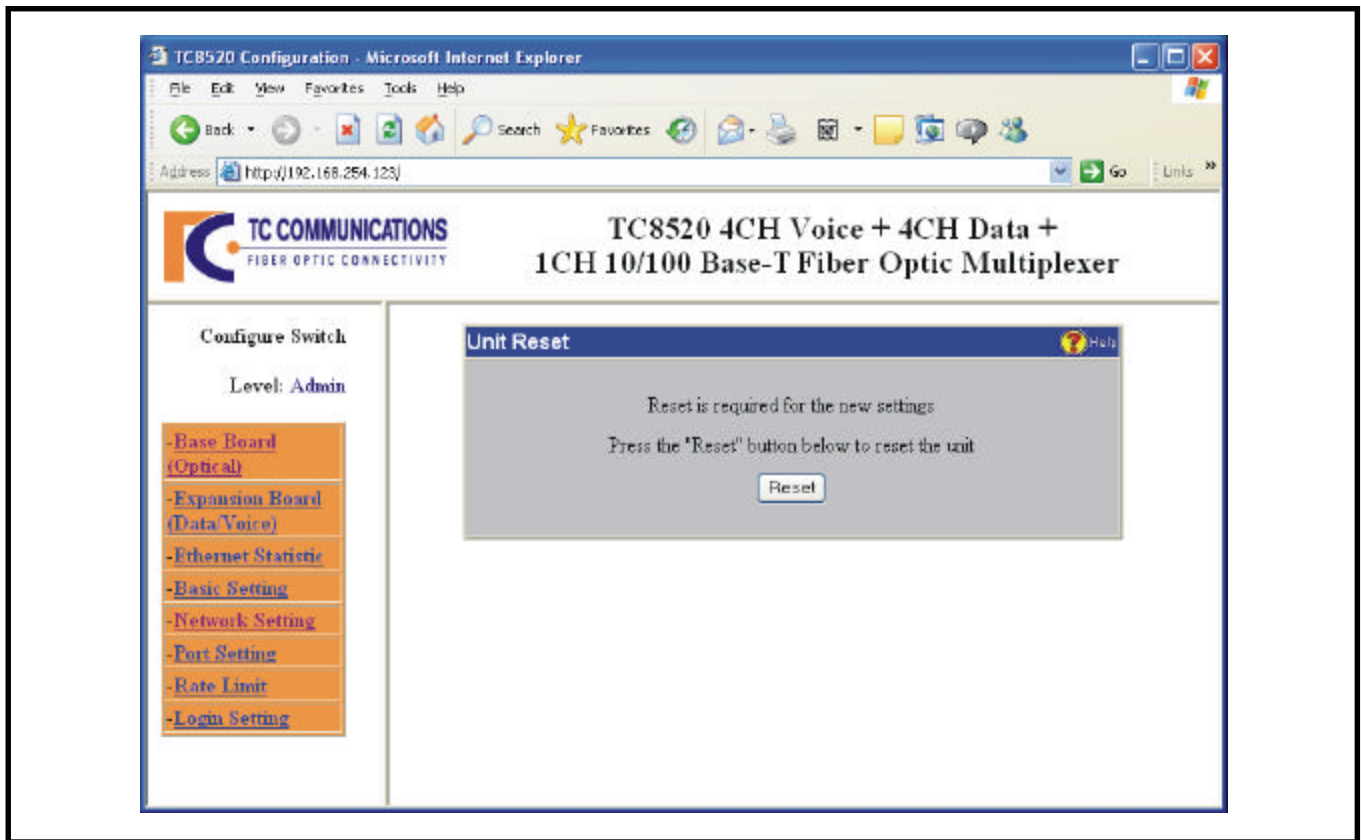

Figure 20. TC8520 Slave Configuration
- a) After you click Apply, a dialog box as in Figure 20 will appear asking you to reset the unit by clicking the "reset button" on that dialog box.